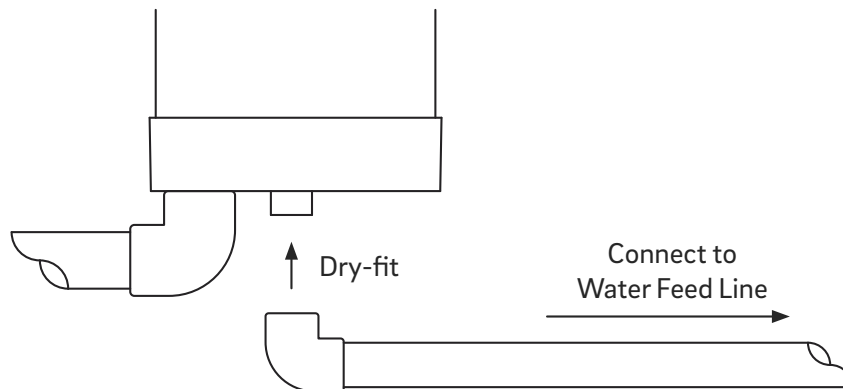

Figure 7
3. From the 90° elbow, glue an 18 inch length of pipe and cap the end. Configure the feed line so that pipe lines up with the main-line coming from the 0.75" gate-valve. Now glue the dry-fit 90° elbow in place (Figure 7).